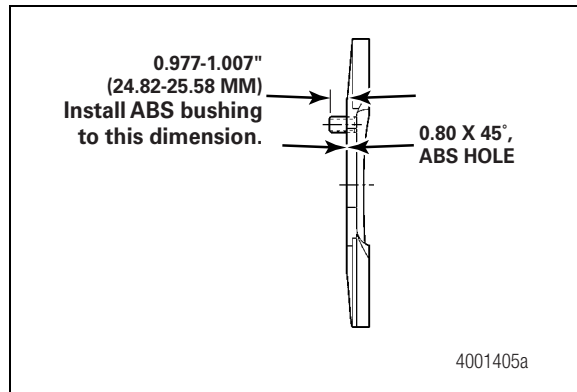

Figure 5.10
1. If the ABS sensor bushing was removed from the torque plate, use a suitable driver to install the bushing. The bushing must extend beyond the torque plate 0.977-1.007-inches (24.82-25.58 mm). Figure 5.10.